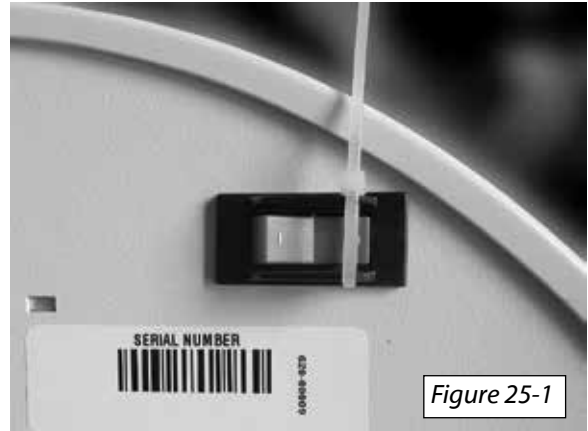

Figure 25-1
**7.** On the backside of the chassis, there is an on/off switch. Cut off and discard the shipping tie on the switch. [Figure 25-1]